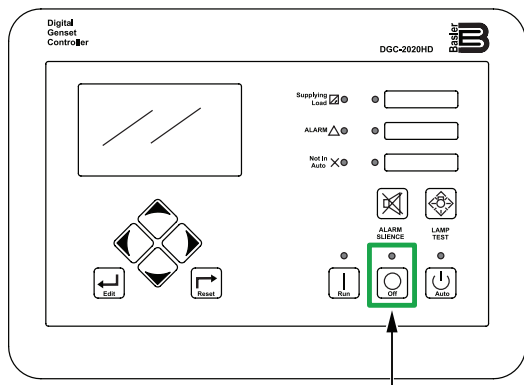

Figure 57. Digital Controller (OFF Button)
3. Press the **OFF button** on the digital controller (Figure 57) on each generator in the paralleled system. Each engine will stop after a 1-minute cool-down process.
3. Press the **OFF button** on the digital controller (Figure 57) on each generator in the paralleled system.